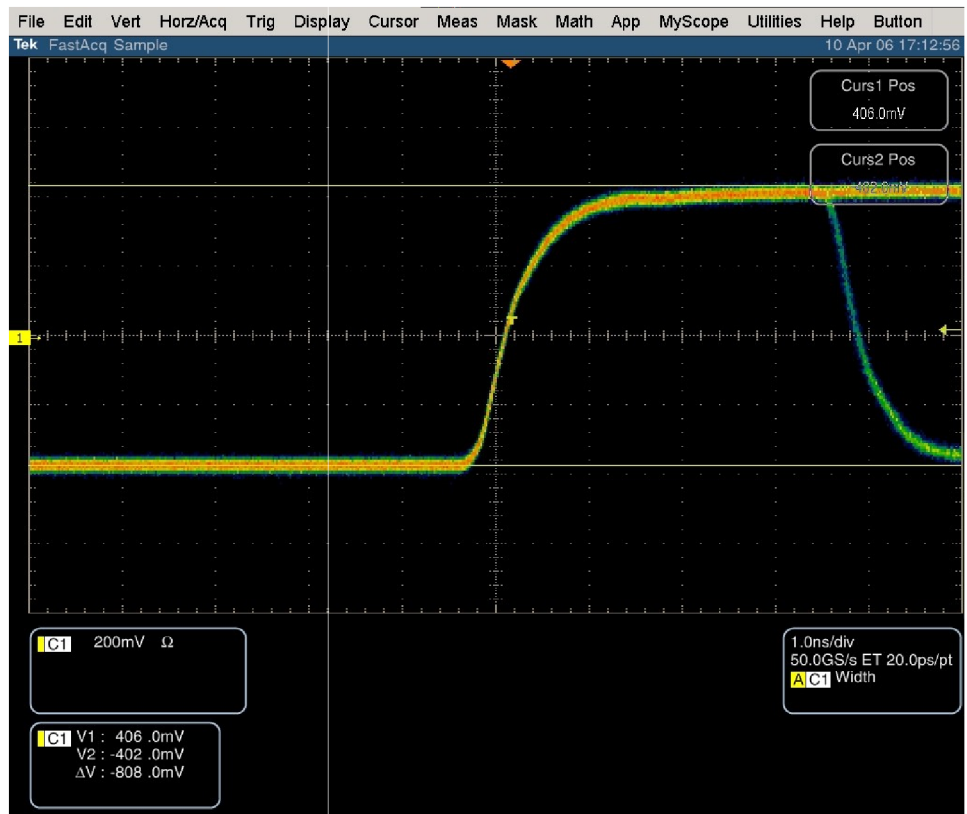

Figure 5: Trigger polarity negative
8. Set the oscilloscope cursor 2 to the bottom of the displayed waveform. (See Figure 5.)